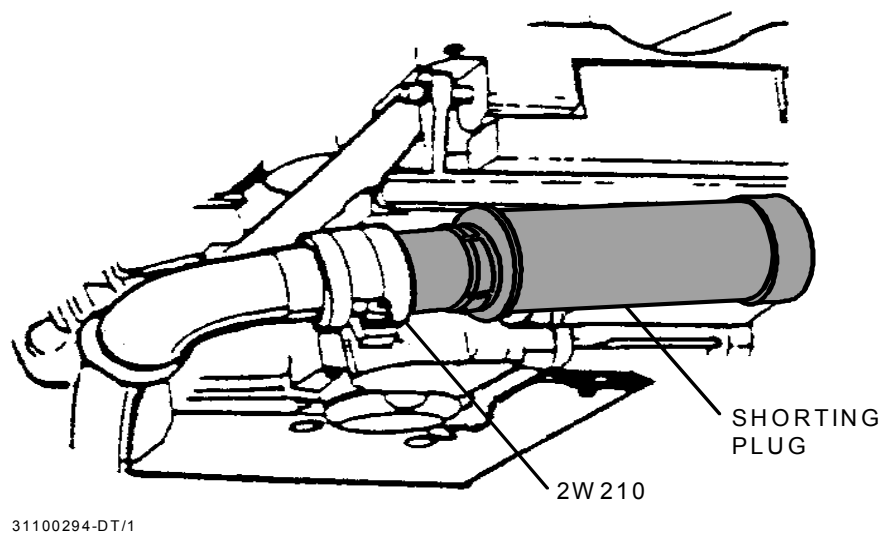

Figure 2-36. M2/M3 Main Gun Receiver 2W10 Shorting Plug Connected.
- g. Connect shorting plug to cable 2W10 (Figure 2-36).